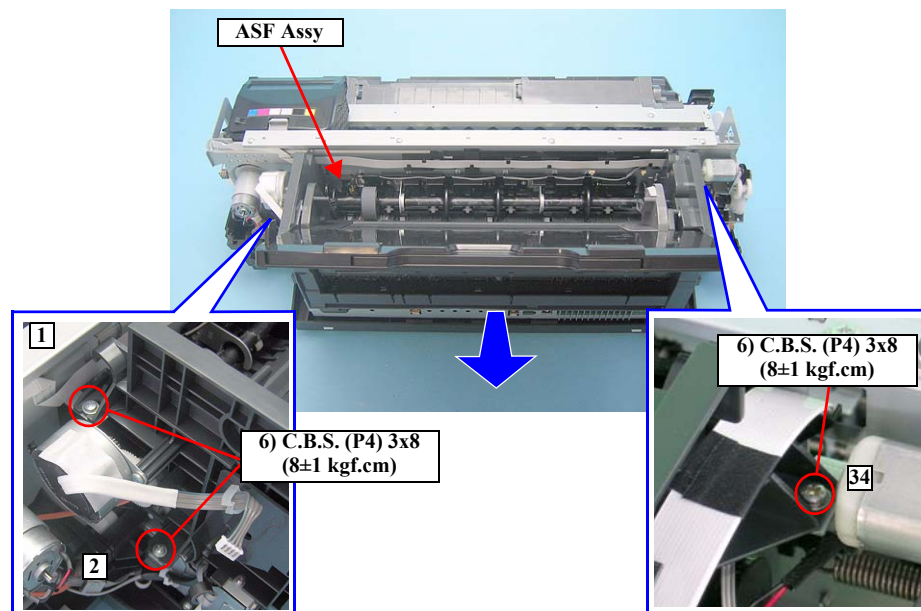

Figure 4-31. Removing the ASF Assy
- Tighten the screws in the order shown in Figure 4-31.